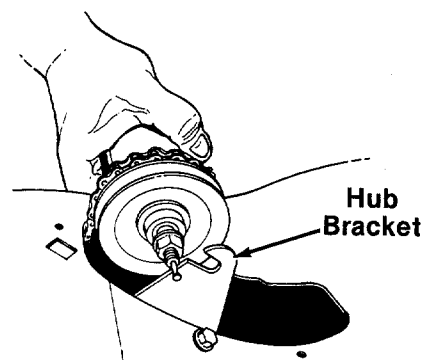

FIGURE 28.
9. Lift the three speed hub out of the three speed hub bracket. See figure 28.